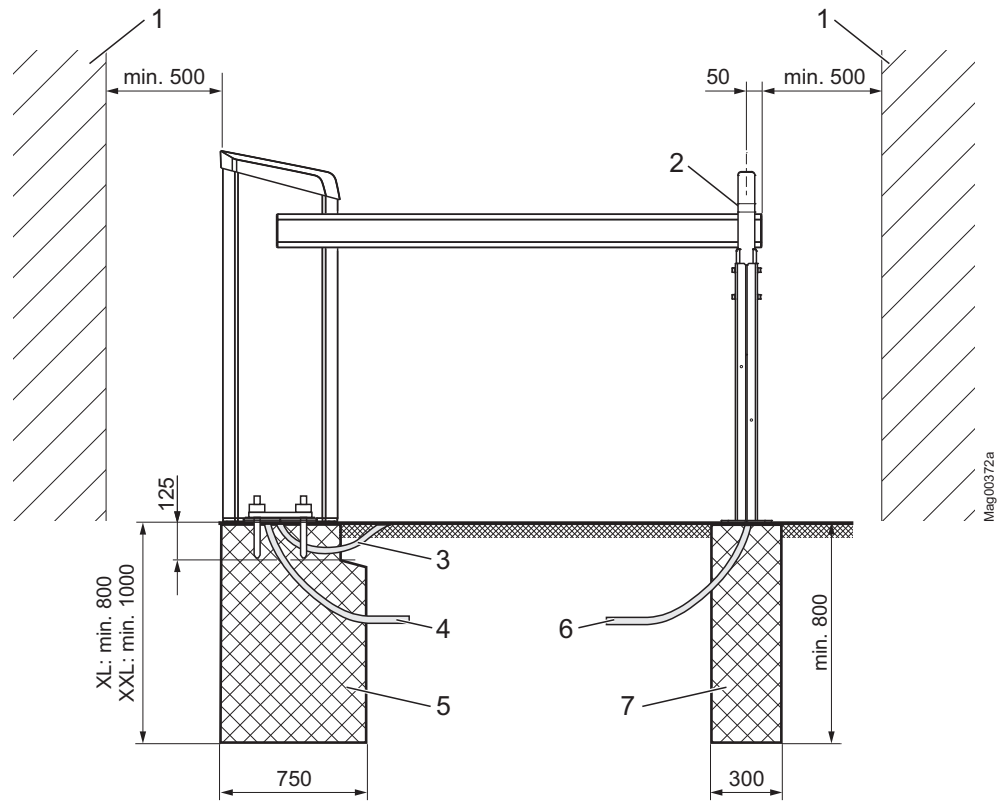
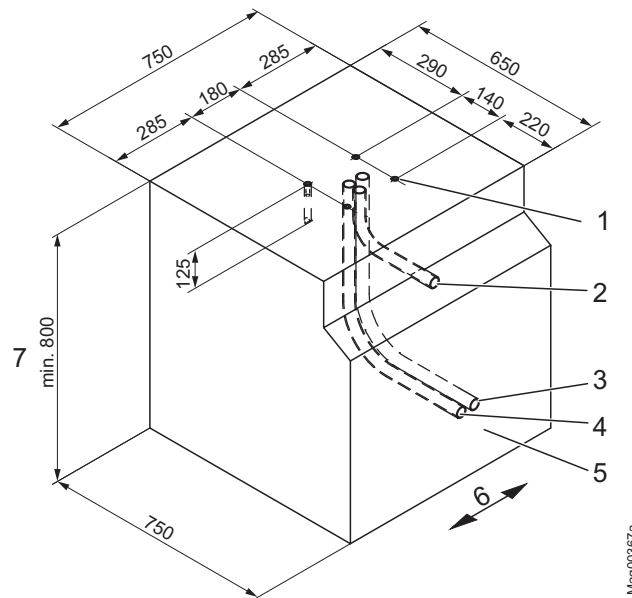
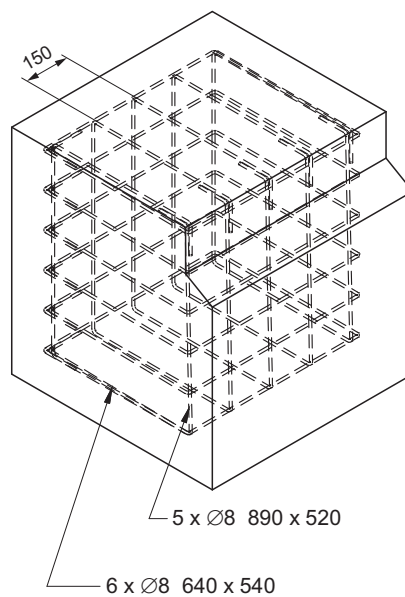

Fig. 11: Assembly boom system
Fig. 12: Foundation plan Access XL
Fig. 13: Reinforcement grid Access XL
<p>Danger of crushing and shearing if the safety distance between the barrier boom and other objects is too low! A closing or opening barrier boom can cause severe injuries from crushing if the safety distance to other objects is too low! Therefore:</p> <ul style="list-style-type: none"> – Keep a safety distance of at least 500 mm between the barrier boom and other objects, such as walls, masonry or houses. → See page 24, chapter 2.7. – Assemble and install barrier system according to Fig. 11.
- Keep a safety distance of at least 500 mm between the tip of the barrier boom and other objects, such as walls, masonry or houses. → See page 44, Fig. 11.
→ See page 44, Fig. 11 and page 46, Fig. 13.
→ See page 46, Fig. 12.
1. Dig foundation hole pursuant to Fig. 11 and Fig. 12.
2. Place reinforcement grid pursuant to Fig. 13 in the foundation hole.
3. Place empty conduits pursuant to Fig. 12 in the foundation hole.
5. Fill concrete foundation pursuant to Fig. 12.